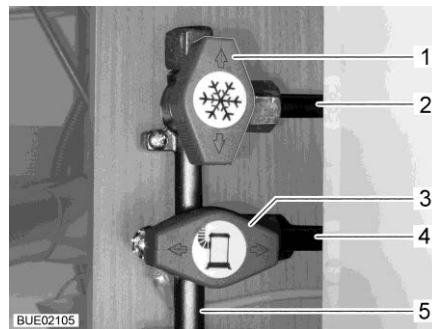

Fig. 180 Gas isolator taps position (example)
**Opening:** ■ Position the gas isolator tap of the corresponding gas device parallel (Fig. 180,3) to the pipe (Fig. 180,4) leading to the gas device.
**Closing:** ■ Position the gas isolator tap of the corresponding gas device transverse (Fig. 180,1) to the pipe (Fig. 180,2) leading to the gas device.